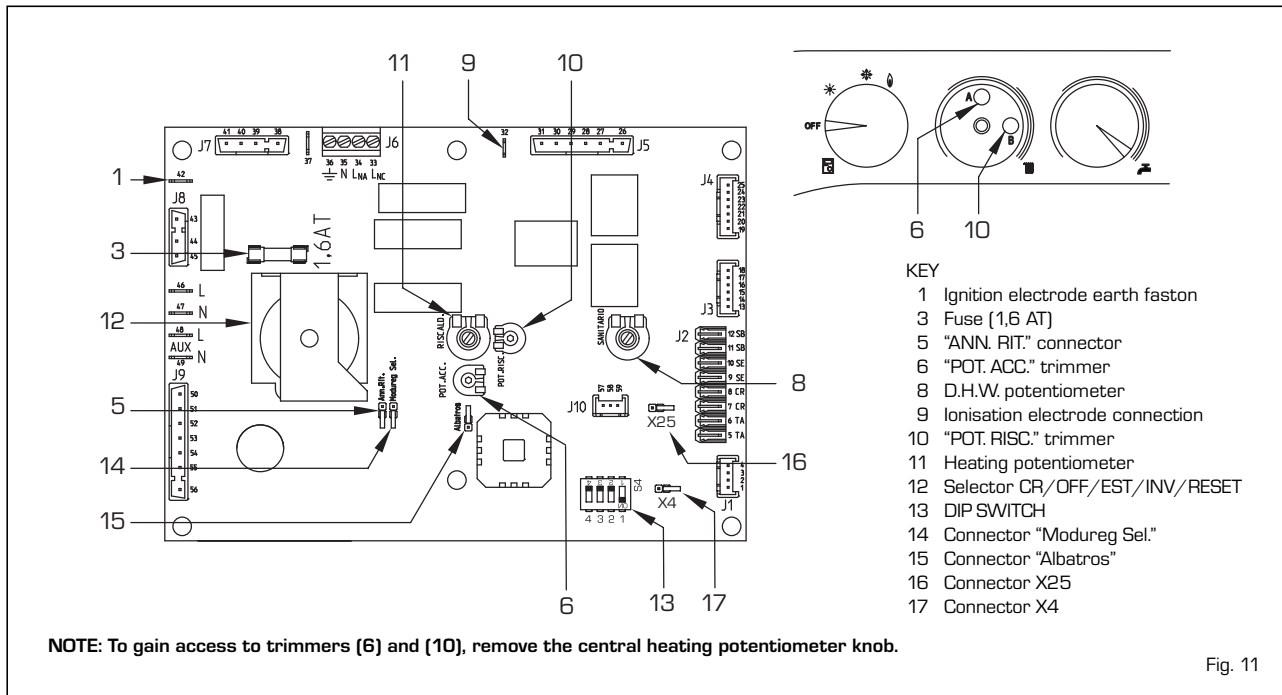

Fig. 11
3.1.2 Devices (fig. 11)
- "HEATING POWER" TRIMMER (10 fig. 11)
- "IGNITION POWER" TRIMMER (6 fig. 11)
- "ANN. RIT." CONNECTOR (5 fig. 11)
- DIP SWITCH (13 fig. 11)
- "Modureg Sel." connector (14 fig. 11)
- "Albatros" connector (15 fig. 11)